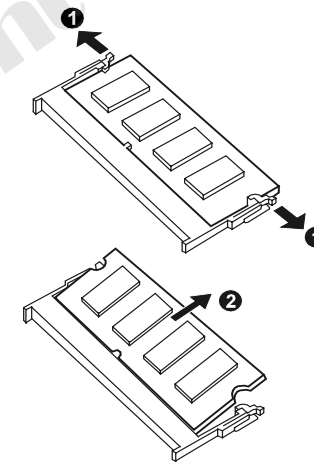

Figure 2-16 Remove the SO-DIMM
3. Pull the retaining clips outwards (❶) and remove the SO-DIMM (❷). (Figure 2-16)